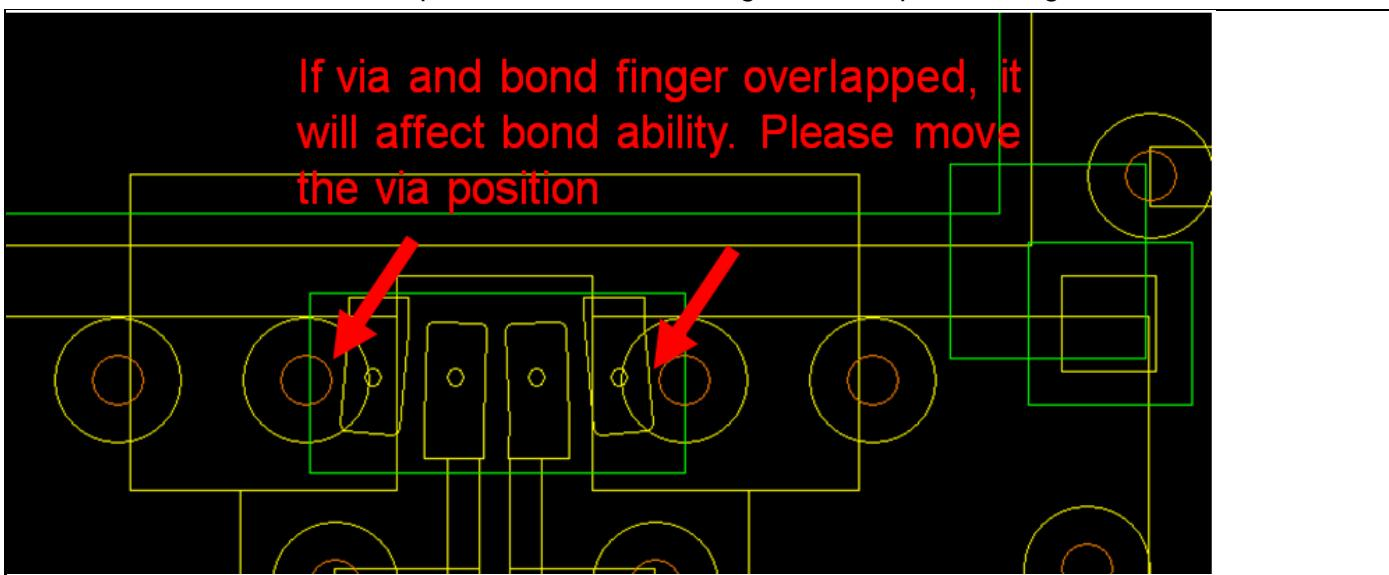

Figure 39 Example bondpad/via rule violation
- Bondpad is not allowed to touch the via and also the according annular ring (AR) spacing around the via. An example that violates this design rule is depicted in Figure 39.